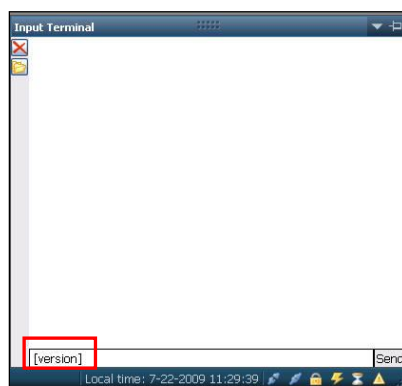

Figure 61: Version Command
3. Type [VERSION] in the field at the bottom of the Input Terminal window (see Figure 61).
5. Browse to NavCom\Firmware on the PC (see Figure 61).